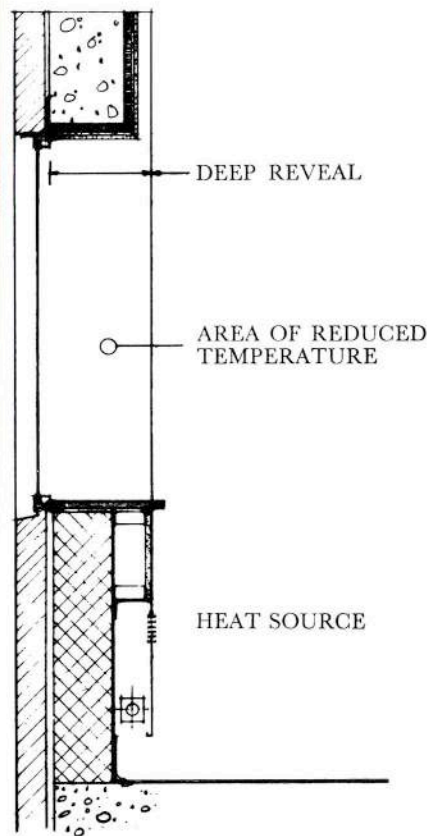

FIGURE 5
The three most common faults contributing to condensation problems are illustrated in figures 5, 6 and 7. First, a deep interior reveal of the window, combined with remote location of the heat source creates a cold air pocket and is therefore a potential window problem (5). Secondly, curtains or blinds between the window and heat source isolates the window from the heat causing a lower temperature between the curtain and window (6). Curtains prevent heat from reaching the cold surfaces of the glass and metal resulting in low surface temperatures on these areas while the moisture vapor in the room air passes through the curtain to be cooled to its dewpoint. Condensation forms or frost appears depending on the exterior temperatures. Third, a heat source between the window and curtain is another potential hazard (7). A unit diffusion section for heat and humidity as illustrated here can cause problems when the occupant is allowed to shut off the source of heat for reasons of comfort, leaving only the flow of cooler conditioned air to circulate. Resultant condensation is always a problem and even more so if no provision has been made to collect and lead away the condensate.